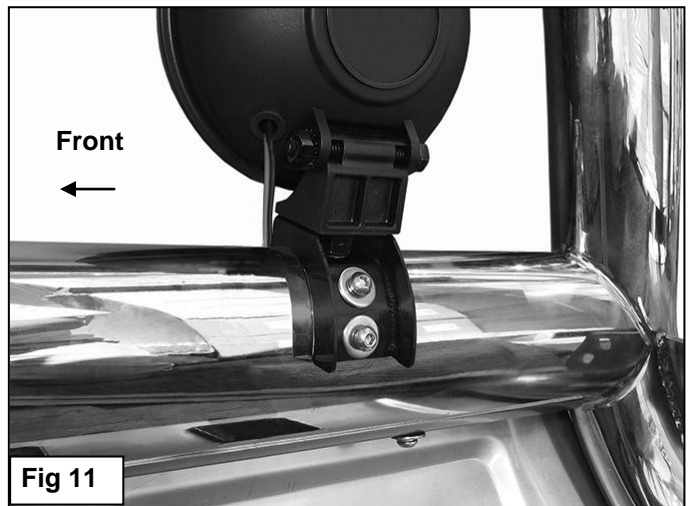

Fig 11
- a) Select (1) Light Mount, **(Figure 10)**. Use the hardware included with the light to attach the light to the top of the Light Mount. If light has a separate tilt feature, fully tighten base mounting hardware, **(See example Figure 11)**. If light adjusts with the base mounting hardware, skip to **Step 12b**.
- b) Remove the rubber plug on the top of the crossbar. Bolt the light and Light Mount to the back of the Bull Bar with the included (4) 6mm x 20mm Button Head Bolts, (4) 6mm Lock Washers and (4) 6mm Flat Washers, **(Figure 11)**. **NOTE:** If light adjusts with the base mounting hardware, hand-tighten the light hardware; do not fully tighten hardware at this time. You may have to install, adjust, remove light with Bracket and readjust a few times to get the light properly adjusted.